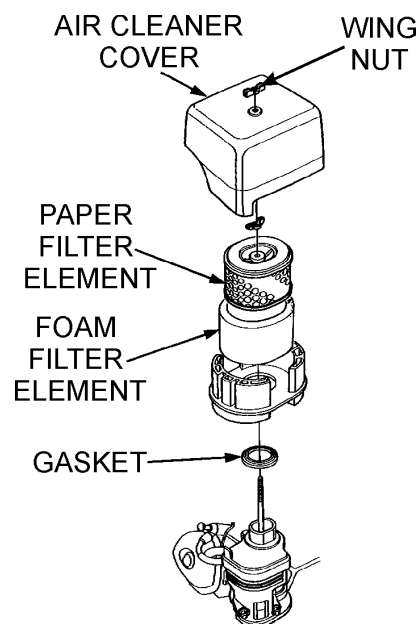

Figure 20. Engine Air Cleaner
- Remove the air cleaner cover and foam filter element as shown in Figure 20.
- Tap the paper filter element (Figure 20) several times on a hard surface to remove dirt, or blow compressed air [not exceeding 30 psi (207 kPa, 2.1 kgf/cm2)] through the filter element from the air cleaner case side. **NEVER** brush off dirt. Brushing will force dirt into the fibers. Replace the paper filter element if it is excessively dirty.